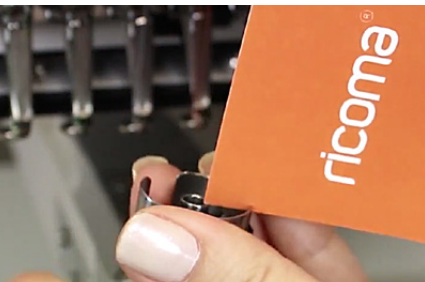

Figure 108
- Clean the lint from the slit on the bobbin case with the corner of a business card, or remove it with the bobbin thread itself like dental floss. Resist the temptation to blow the lint off, which can deposit damaging saliva onto your bobbin case. **See Figure 108.**